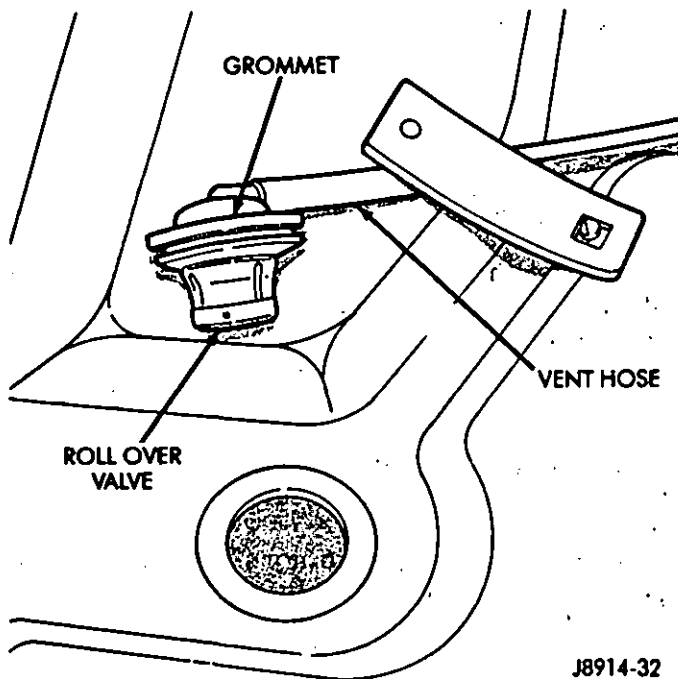

Fig. 6—Rollover Valve
- (1) Disconnect battery negative cable from the battery.
- (2) Remove the fuel filler cap and drain fuel tank. Refer to Draining Fuel Tank in Group 14.
- (3) Remove fuel tank. Refer to Fuel Tank Removal in Group 14.
- (4) The rollover valve is seated in a grommet. Remove by prying one side upward and then roll the grommet out of tank (Fig. 6).